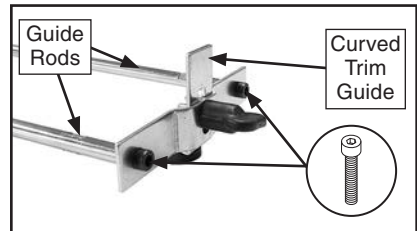

Figure 20. Curved trim guide assembly.
2. Remove (2) cap screws and guide rods from straight guide and use to assemble curved trim guide, as shown in **Figure 20**.